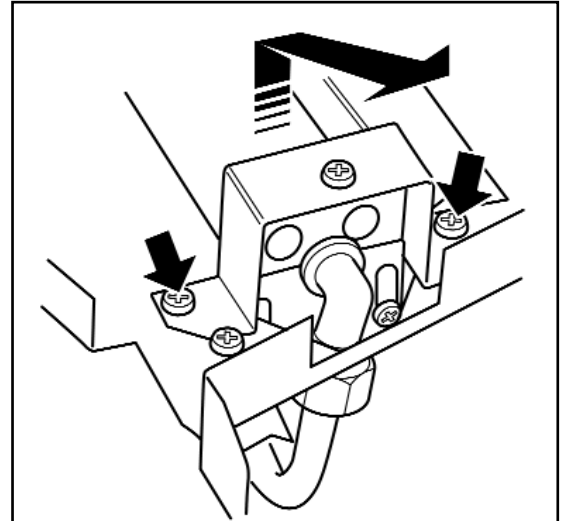

Figure 42. Removal of burner
(See figure 42).
3. Remove the two screws from the burner clamping plate (See figure 42)